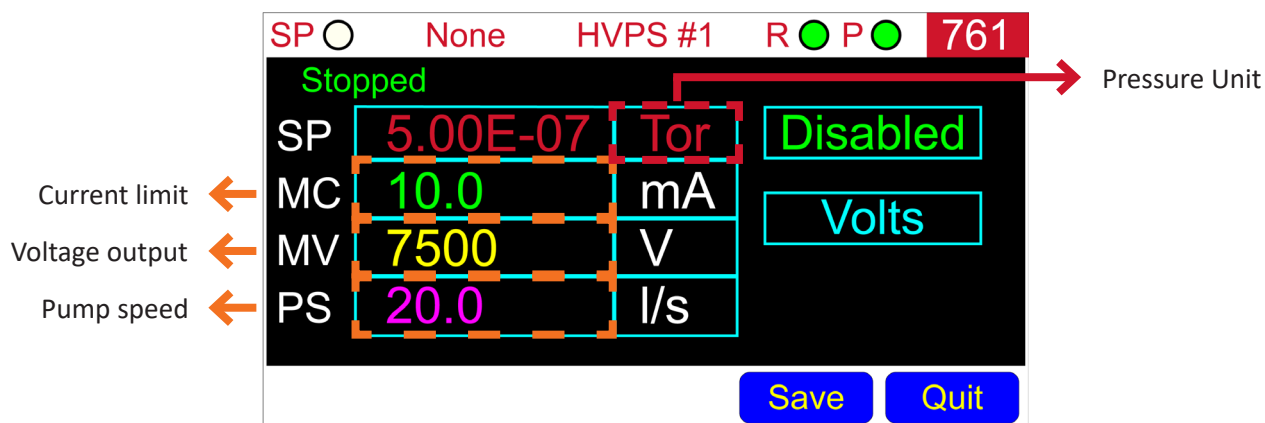

Figure 16. Ion pump parameters
3. As shown in Figure 16, all controller-specific settings are available on screen
To view or change the ion pump parameters, the user must enter the Channel Configuration menu. As shown in Figure 16, the ion parameters are enclosed (for illustrative purposes) in either an orange or red rectangle. Table 4 lists the range for the ion pump parameters. To operate the ion pump or view and modify ion pump parameters remotely, see "Communication Protocols".